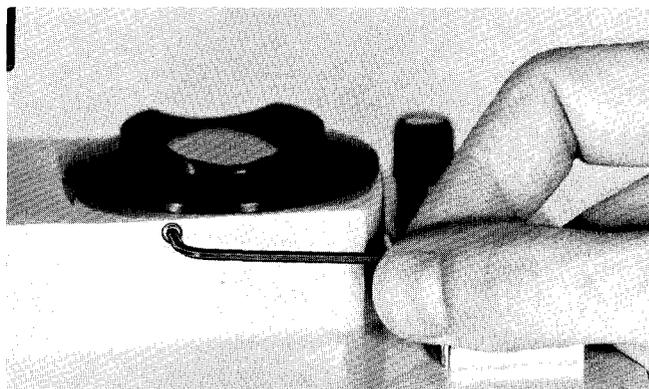

Figure 22. Removal of Window Assembly
5. Removal of Window Assembly. The window assembly is easily removed for cleaning. Loosen the socket head screw on the microscope base with wrench provided (Figure 22) and lift off window assembly.